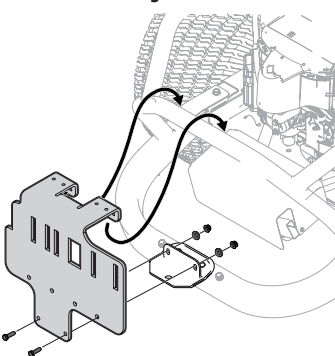

Figure 5
- Hang adapter bracket assembly onto upper frame tube and connect to hitch bracket adapter (789-02298) with two screws (710-0376), two cup washers (736-0242), and two flange lock nuts (712-04063). See Figure 5.